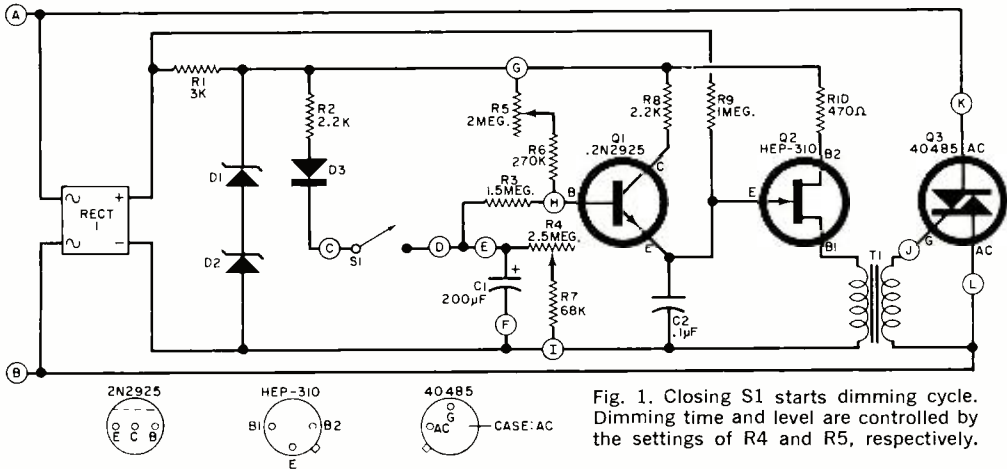

Fig. 1. Closing S1 starts dimming cycle. Dimming time and level are controlled by the settings of R4 and R5, respectively.
Fig. 1. Designed to accommodate a near-random selection of junk-box parts, the amplifier also features microphone and phono inputs and a full complement of gain and tone controls.
**About the Circuit.** Like all tube-type amplifiers, this one requires an output transformer (*T1* in Fig. 1) to match the output impedance of *V3* to the voice-coil impedance of the speaker selected. However, it is important to bear in mind that the primary impedance of *T1* is valid only if the secondary is connected to a speaker coil of the correct impedance. Thus, a 16-ohm speaker should be fed by an output transformer intended to work into 16 ohms. If the secondary of the output transformer is connected to an incompatible speaker impedance, the speaker and amplifier will be mismatched—even if the primary imped-
**How It Works.** To obtain proper dimming action, the Dynadim must be connected in series with the a.c. power source and the load (lamp or fixture to be controlled) via terminals *A* and *B* in Fig. 1.